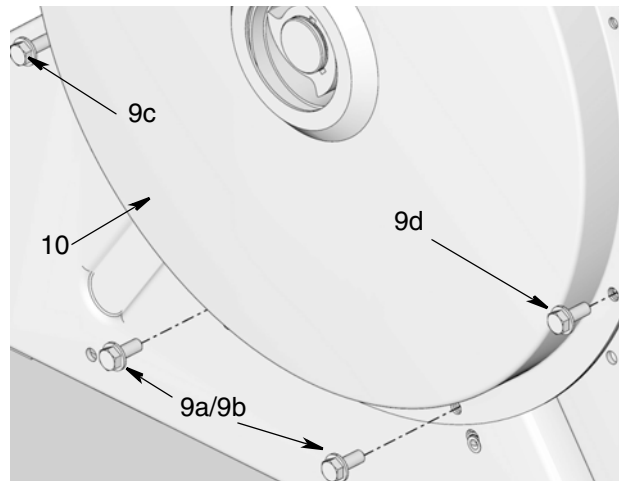

FIG. 11
- b. Remove all bolts (9) from the spring canister (10).
**NOTE:** Remove the bottom two bolts (9a and 9b) first. Then use your free hand to support the spring while removing the other two bolts 9c and 9d (FIG. 11).